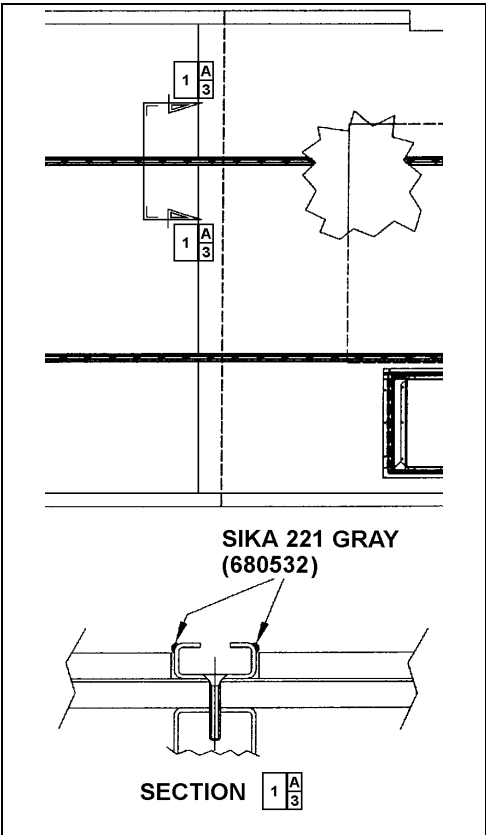

FIGURE 27: APPLICATION OF SIKA 221 GRAY
8. Apply Sikaflex 221 gray sealant (680532) alongside passenger seat fixing tracks (refer to figure 27).